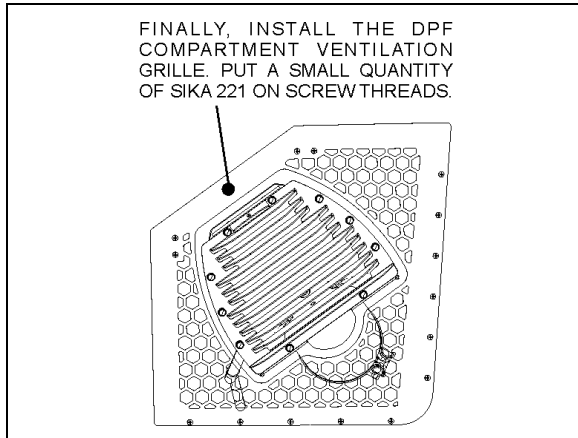

FIGURE 12: DIFFUSER POSITION ADJUSTMENT 04015\_3
- Reinstall the DPF compartment grille. Put a small quantity of Sika 221 on screws (fig.12).